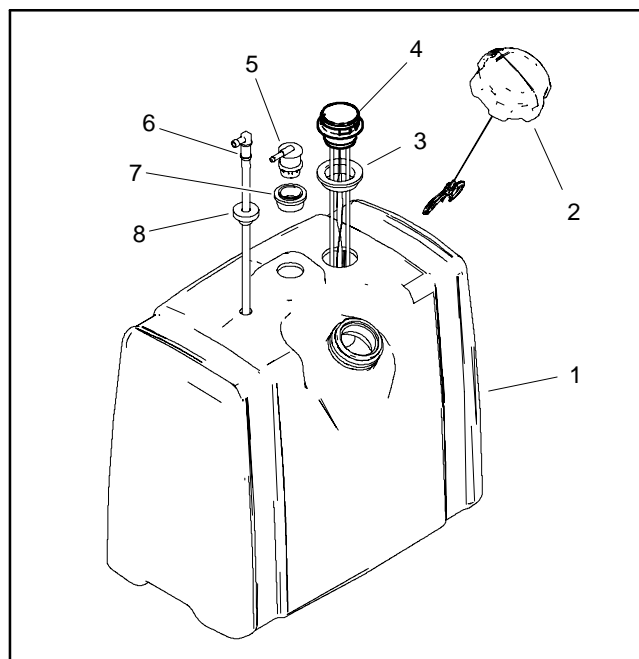

Figure 6
5. Remove components from fuel tank as needed using Figure 6 as a guide.
1. Install all removed components to fuel tank using Figure 6 as a guide.